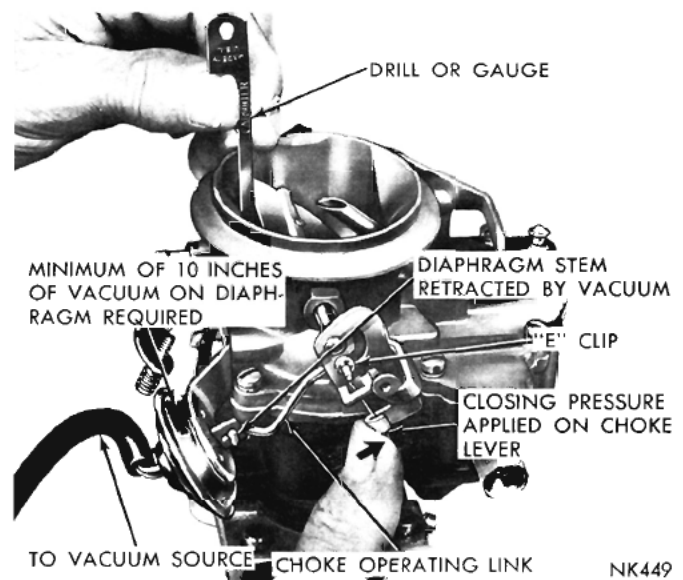

Fig. 18—Measuring the Choke Vacuum Kick Setting
(1) With the engine **Not** running, open the throttle valves far enough to allow the choke valve to be moved to the closed position.
(2) Disconnect the vacuum hose from the diaphragm and connect the hose from the vacuum supply as shown in (Fig. 18). (A minimum of 10 inches of mercury (HG) will be required.)
(3) Insert the specified drill or gauge between the choke valve and the wall of the air horn. Refer to (Fig. 18). Apply sufficient closing pressure on the choke shaft lever to provide the smallest choke valve opening possible without distortion of the diaphragm link. Note that the link must deflect a wire spring before it reaches the end of travel within the lever slot. The link must travel to the end of the slot for proper measurement of the kick adjustment.
(4) An adjustment will be necessary if a slight drag is not obtained as the drill or gauge is being removed.
(7) Install the choke operating link and recheck the choke valve opening, using a drill or gauge. Refer to (Fig. 18).